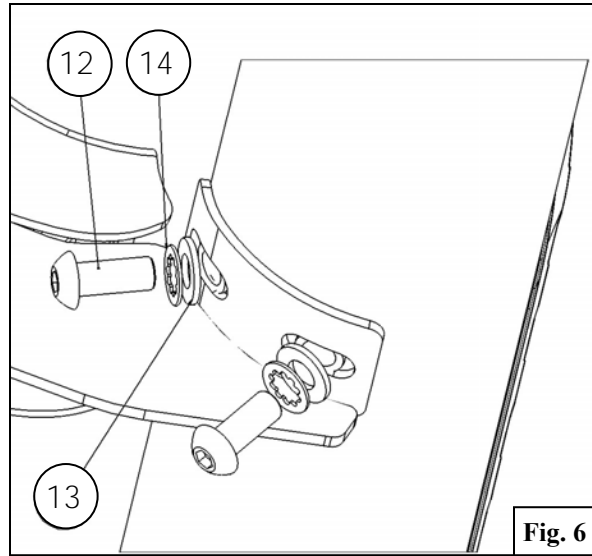

Fig. 6
7. Fasten step bars respectively to either side using the M8 hardware provided with the step bars. See **Figure 6**.